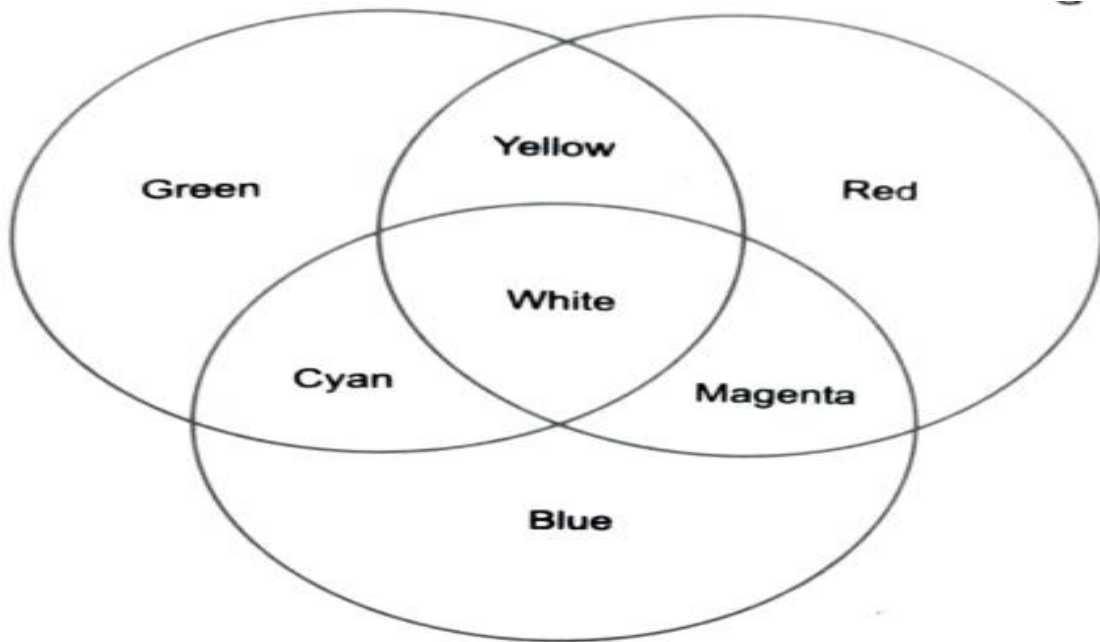

Fig 14.2: *Additive mixing of Colours*
- Fig.14.2 illustrates additive mixing of colours.